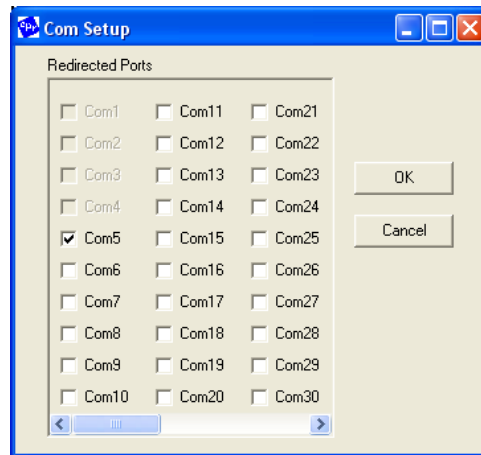

Figure 6.6 – COM Setup Dialog Box
- b. Click the **Com Setup** button. A **Com Setup** dialog box similar to the one in Figure 6.6 appears, with the first logical communications port checked. The physical communication ports on the computer where COM Port Redirector is installed are displayed as gray and unavailable. In Figure 6.6, these are COM1 through COM4. Your unavailable communication ports may vary from those in Figure 6.6.